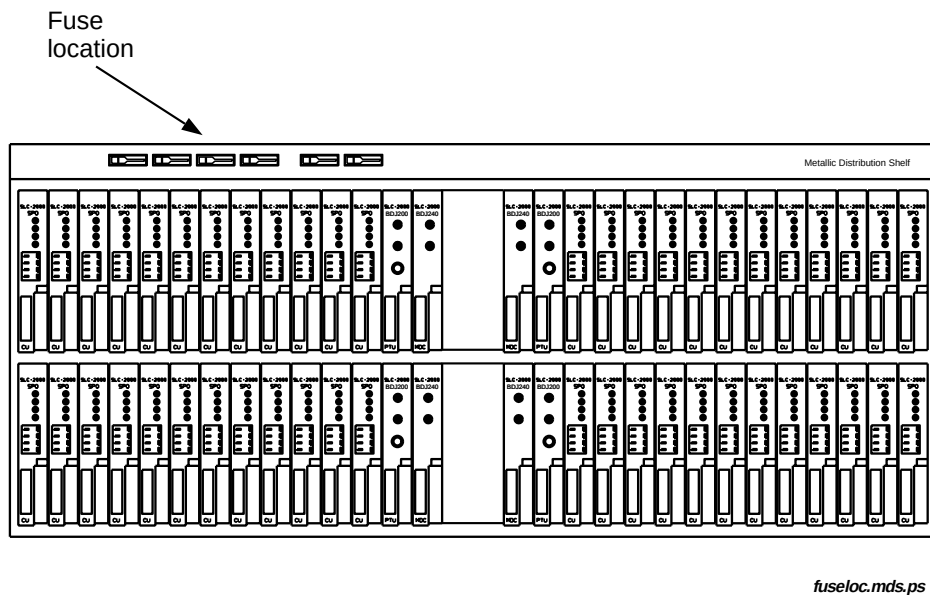

Figure 2 – MDS Assembly Fuse Location
- Each MDS assembly (Figure 2)